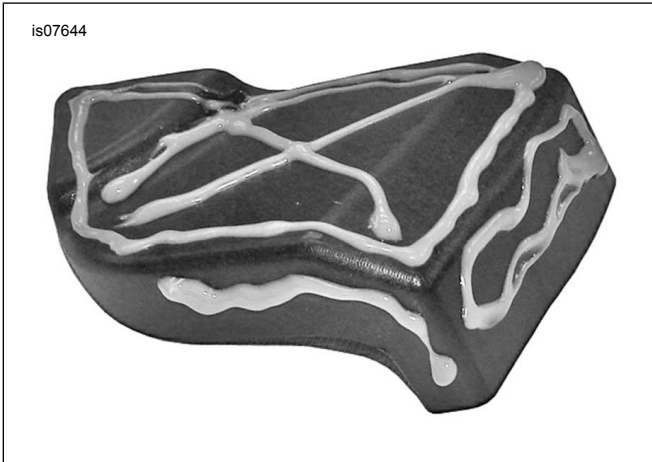

Figure 2. Apply Adhesive
4. See Figure 2. Place oil deflector (cover side up) on a clean protected surface. Apply adhesive: